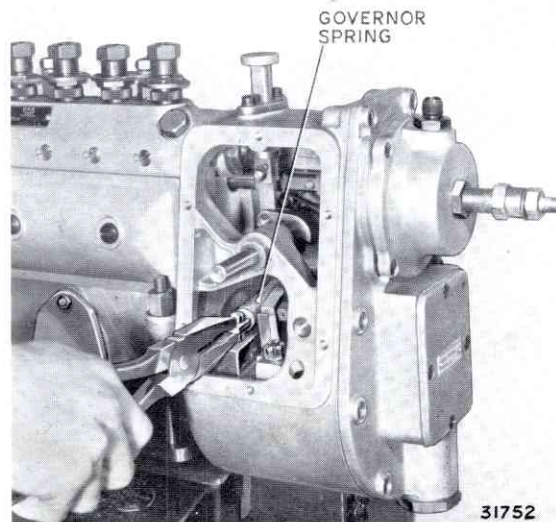

FIG. 85. RELEASING GOVERNOR SPRING
5. Release the governor springs (Fig. 85).
7. Remove the four setscrews securing bracket (Fig. 85) to the driving centre and remove the bracket and sleeve.